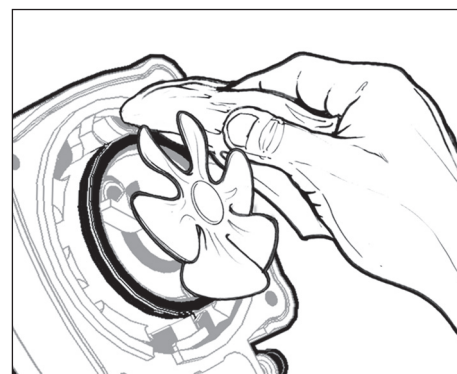

Figure 8
4. Using a clean cloth, wipe off all remaining cleaner and/or dirt. Make sure the o-ring groove and spark plug are completely clean and clear of debris (see Figure 8). Repeat step 3 and 4 to remove any remaining dirt or residue.